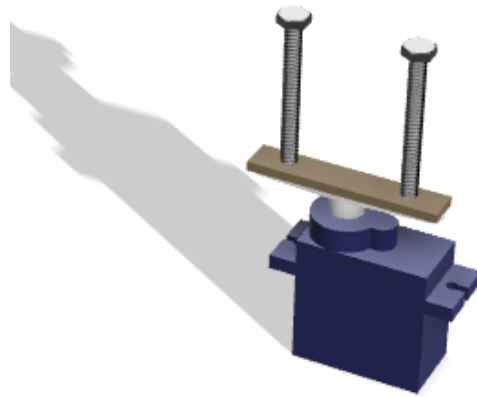

Figure 5. Motor and string setup with watering pot and cardboard cylinders
13. Use Crazy Glue to glue the heads of two 4x40 1" length machine screws to the cardboard - one on either arm of the horn. See Figure 5 in Appendix C for drawing. Wait several hours for glue to dry.